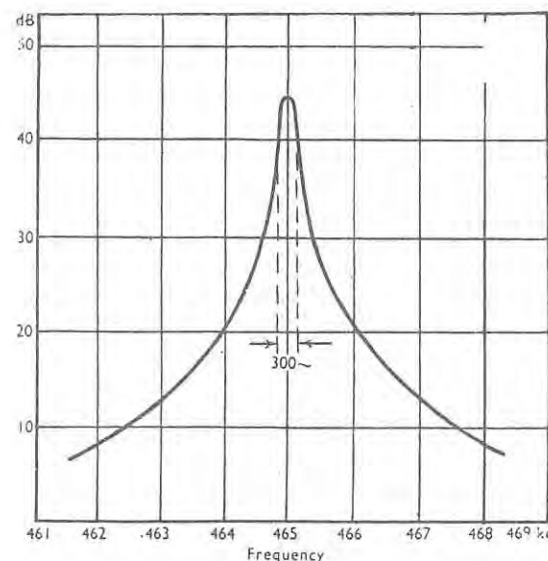

Fig. 4. Typical response curve for circuit shown in Fig. 3.
Fig. 4. (A) Ammeters correctly placed for taking readings. If Ammeter 1 reads 12 and Ammeter 2 reads 4, then the SWR is 12/4, or 3. (B) shows incorrect placing of ammeters from which it is evident that a true indication of the SWR could not be obtained.
The arrangement for such a filter is shown in Fig. 3, where both the input and output circuits are tuned to the resonance frequency of the crystal and the condenser C2 is adjusted to have the same value as the inherent capacity of the crystal in its holder. Thus, for any frequency except the narrow pass-band of the crystal, the circuit is balanced and no output results. In the pass-band the reactance of the crystal branch of the circuit is very much reduced and so the bridge is unbalanced. The response of such a filter is shown in Fig. 4, from which it will be seen that the band width which may be expected from a 465-kc filter may be of the order of 300 cycles. This figure can be varied to some extent by adjustment of the impedances of the input and output circuits, but it is obviously too small to be of any use as a sideband filter. If, however, such a filter is constructed with a crystal of ten times the frequency, the pass-band would be about ten times as great. So a 5-mc filter would give a pass-band of the order of 3 kc, which is something like the required figure, but the sides of the curve are still not sufficiently steep to cut off one sideband and leave the other intact.